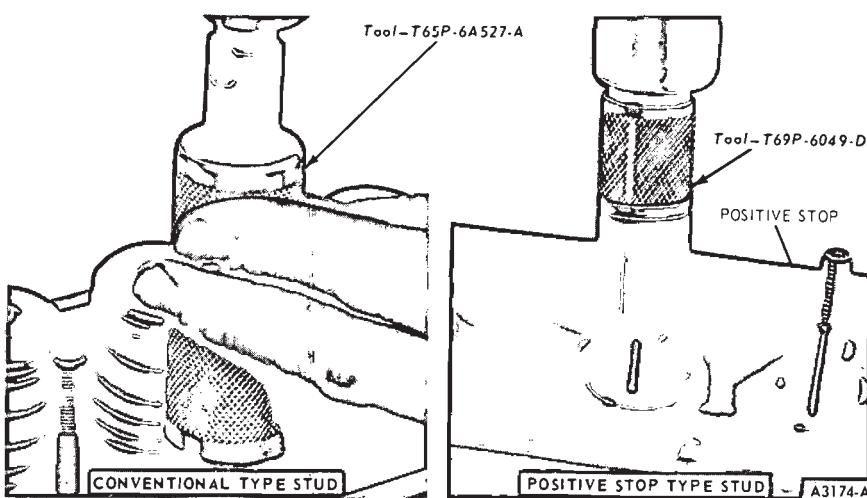

FIG. 21—Installing Rocker Arm Stud—240 Six, 302-W and 351 V-8
3. If working on a 240 or 302 CID engine, screw the new stud into the sliding driver of the rocker arm stud installer (T65P-6A527-A) and coat the end of the stud with Lubriplate. Align the stud and installer with the stud bore, then tap the sliding driver until it bottoms (Fig. 21). When the installer contacts the stud boss, the stud is installed to its correct height. This applies to a 240 or 302 engine.
4. Use tool T69P-6049-D when installing a positive stop stud (Fig. 21) in a 351 CID cylinder head.